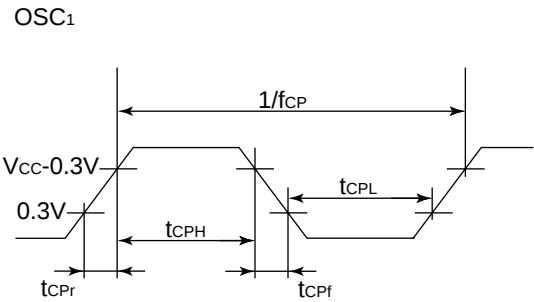

Figure 104 External Clock Input Waveform
- (1) The time required for the oscillation to settle after  $V_{\text{CC}}$  has reached min. at power-on.
- (2) The time required for the oscillation to settle after  $\overline{\text{RESET}}$  input has gone low when stop mode is cleared.To ensure enough time for the oscillation to settle at power-on hold the  $\overline{\text{RESET}}$  input low for at least time  $t_{\text{RC}}$ . The oscillation settling time will depend on the circuit constants and stray capacitance. The resonator should be determined in consultation with the resonator manufacturer. With regard to the system clock ( $\text{OSC}_1$ ,  $\text{OSC}_2$ ), bits MIS1 and MIS0 in the miscellaneous register (MIS) should be set according to the oscillation settling time of the resonator used.
3. See figure 104.